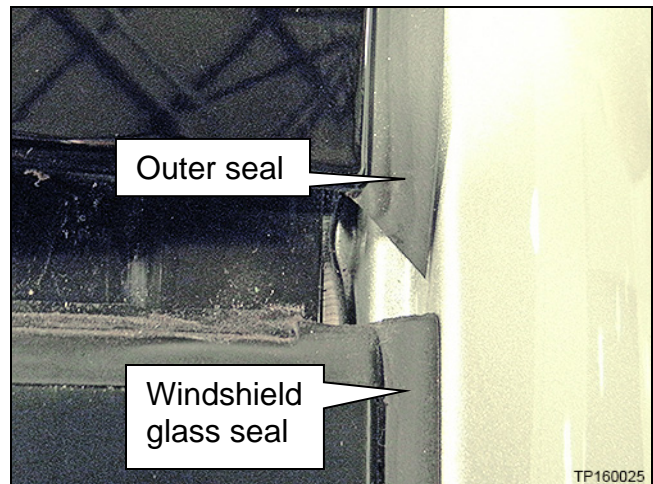

Figure 31
9. Tuck the trim panel outer seal under the windshield glass seal (Figure 31).